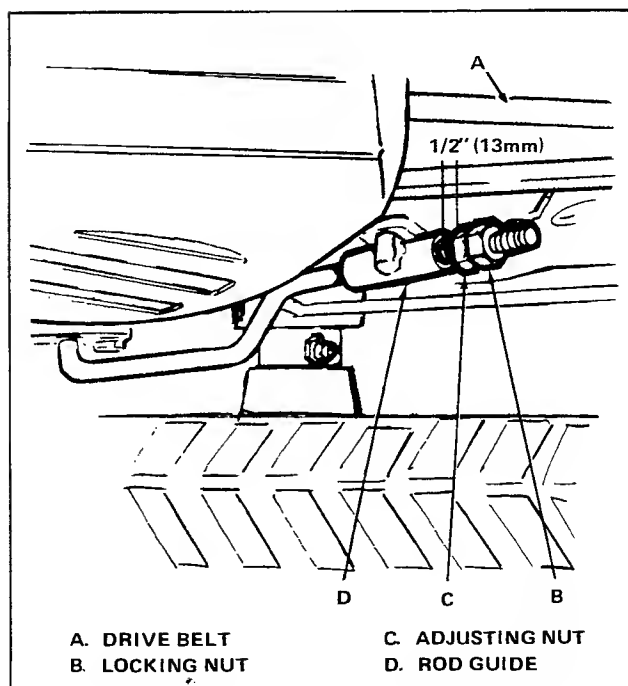

Figure 19. Foot Pedal Parking Brake
3. Loosen the two nuts (items B and C, figure 19).